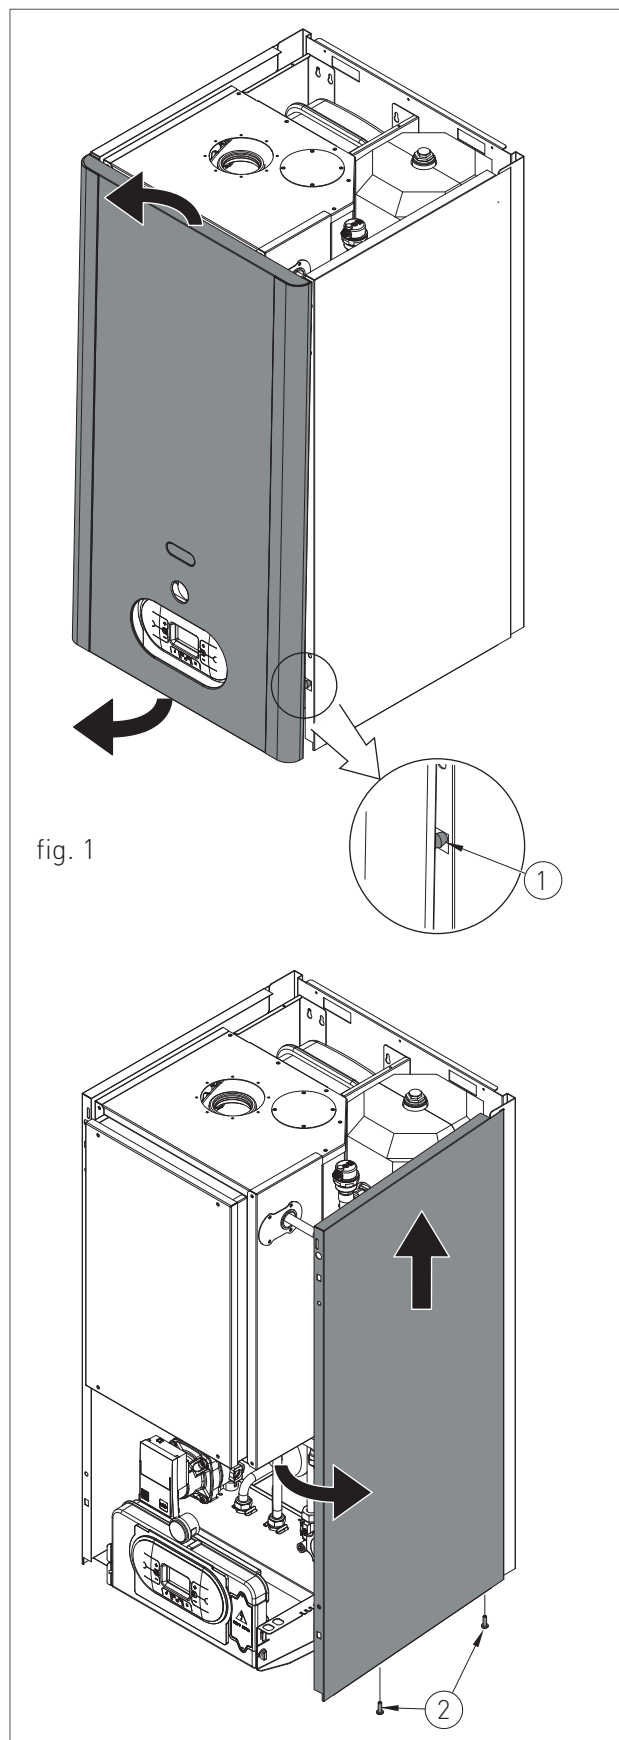

fig. 1
- › remove the fastening screws (2 - fig.1) placed on the side panel;
- › grab the bottom of the panel and remove it by moving it sideways and then pulling it upwards (see fig. 1).